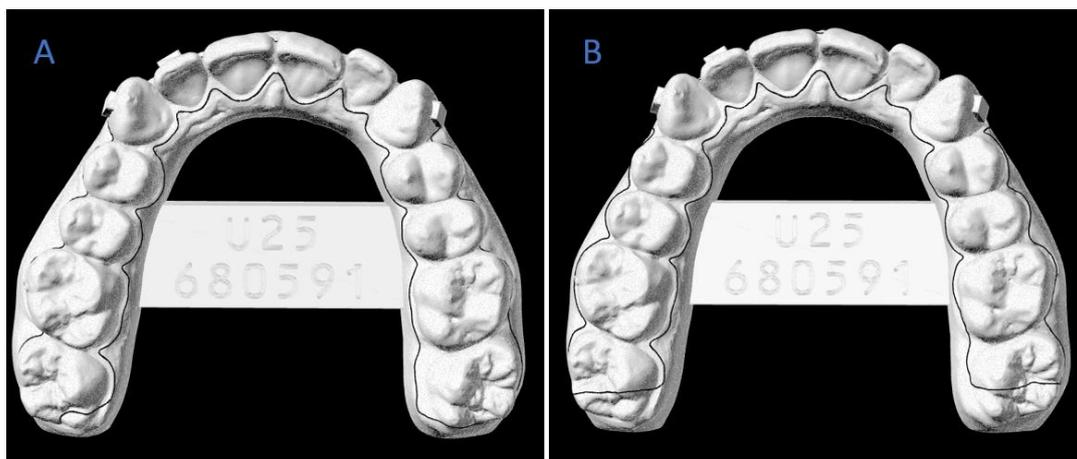
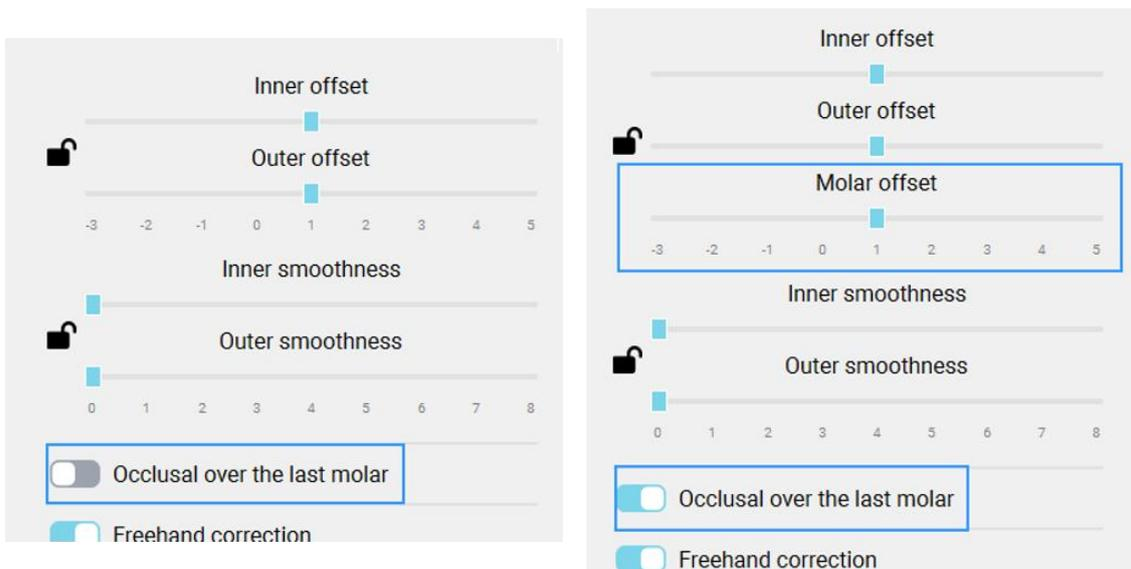

Figure 8: Occlusal over the last molar deactivated (A) and activated (B)
Figure 9: Molar offset is displayed only when Occlusal over the last molar is activated
Occlusal over the last molar (8) controls that the trimline is designed not behind the last molar, but on top of it (Figure 8). If this option is activated, you can also modify its offset with an additional feature (Molar offset) that will be automatically displayed below the inner and outer offset features, see Figure 9.